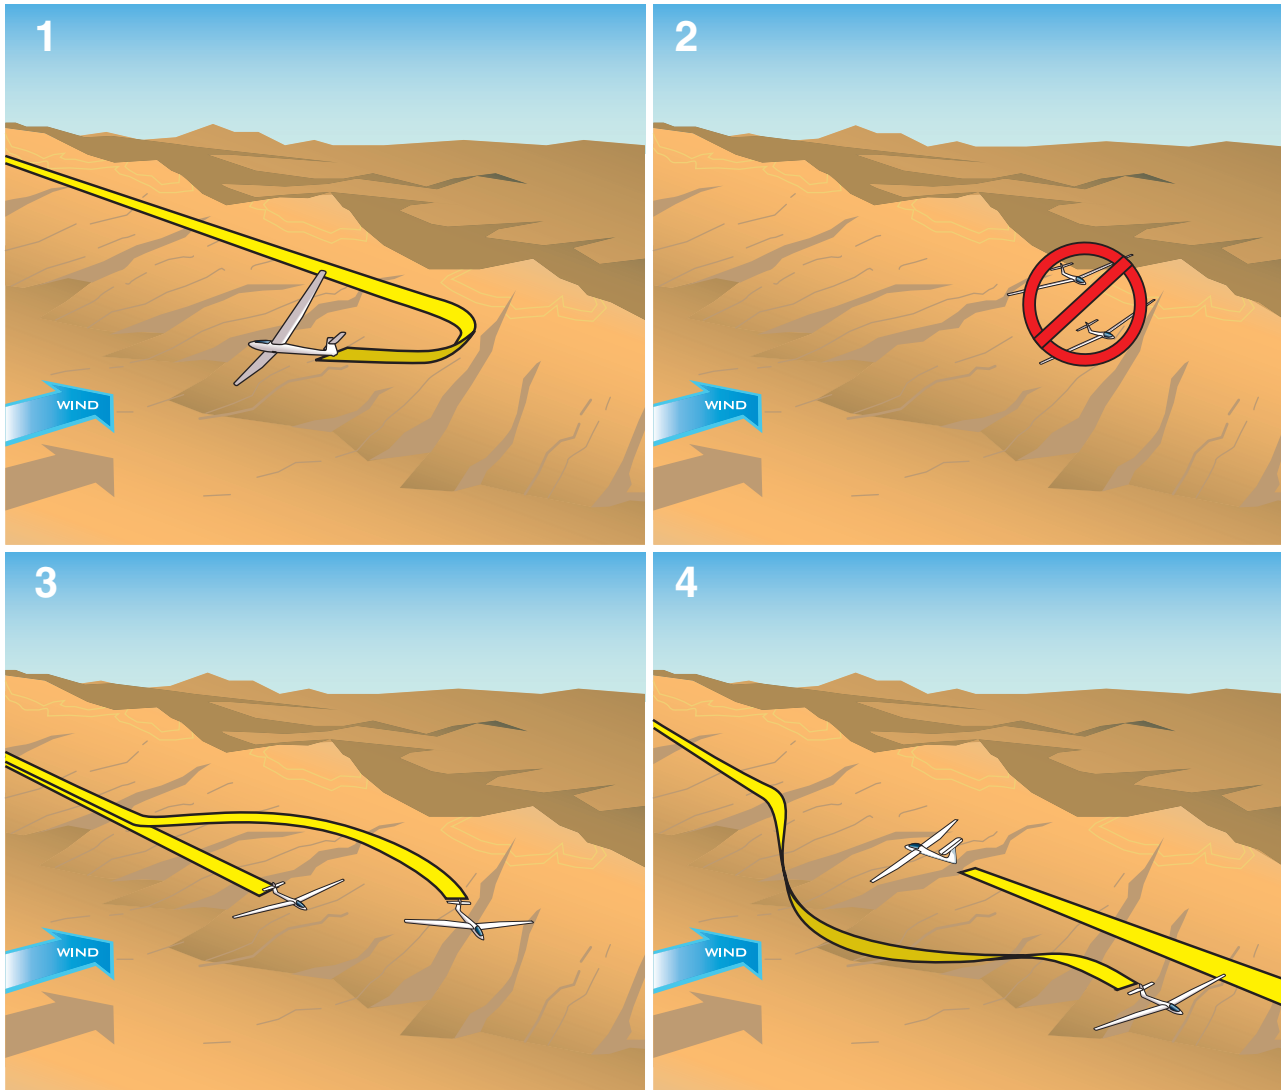

Figure 10-15. Ridge rules.
4. the glider with its right side to the ridge has the right of way. [Figure 10-15]